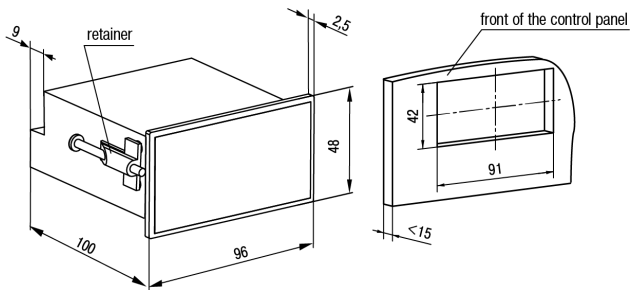

Figure 4.4 – Dimensions of Ψ 2 housing
1. Prepare a place for mounting on the control panel (see *Figure 4.4*).